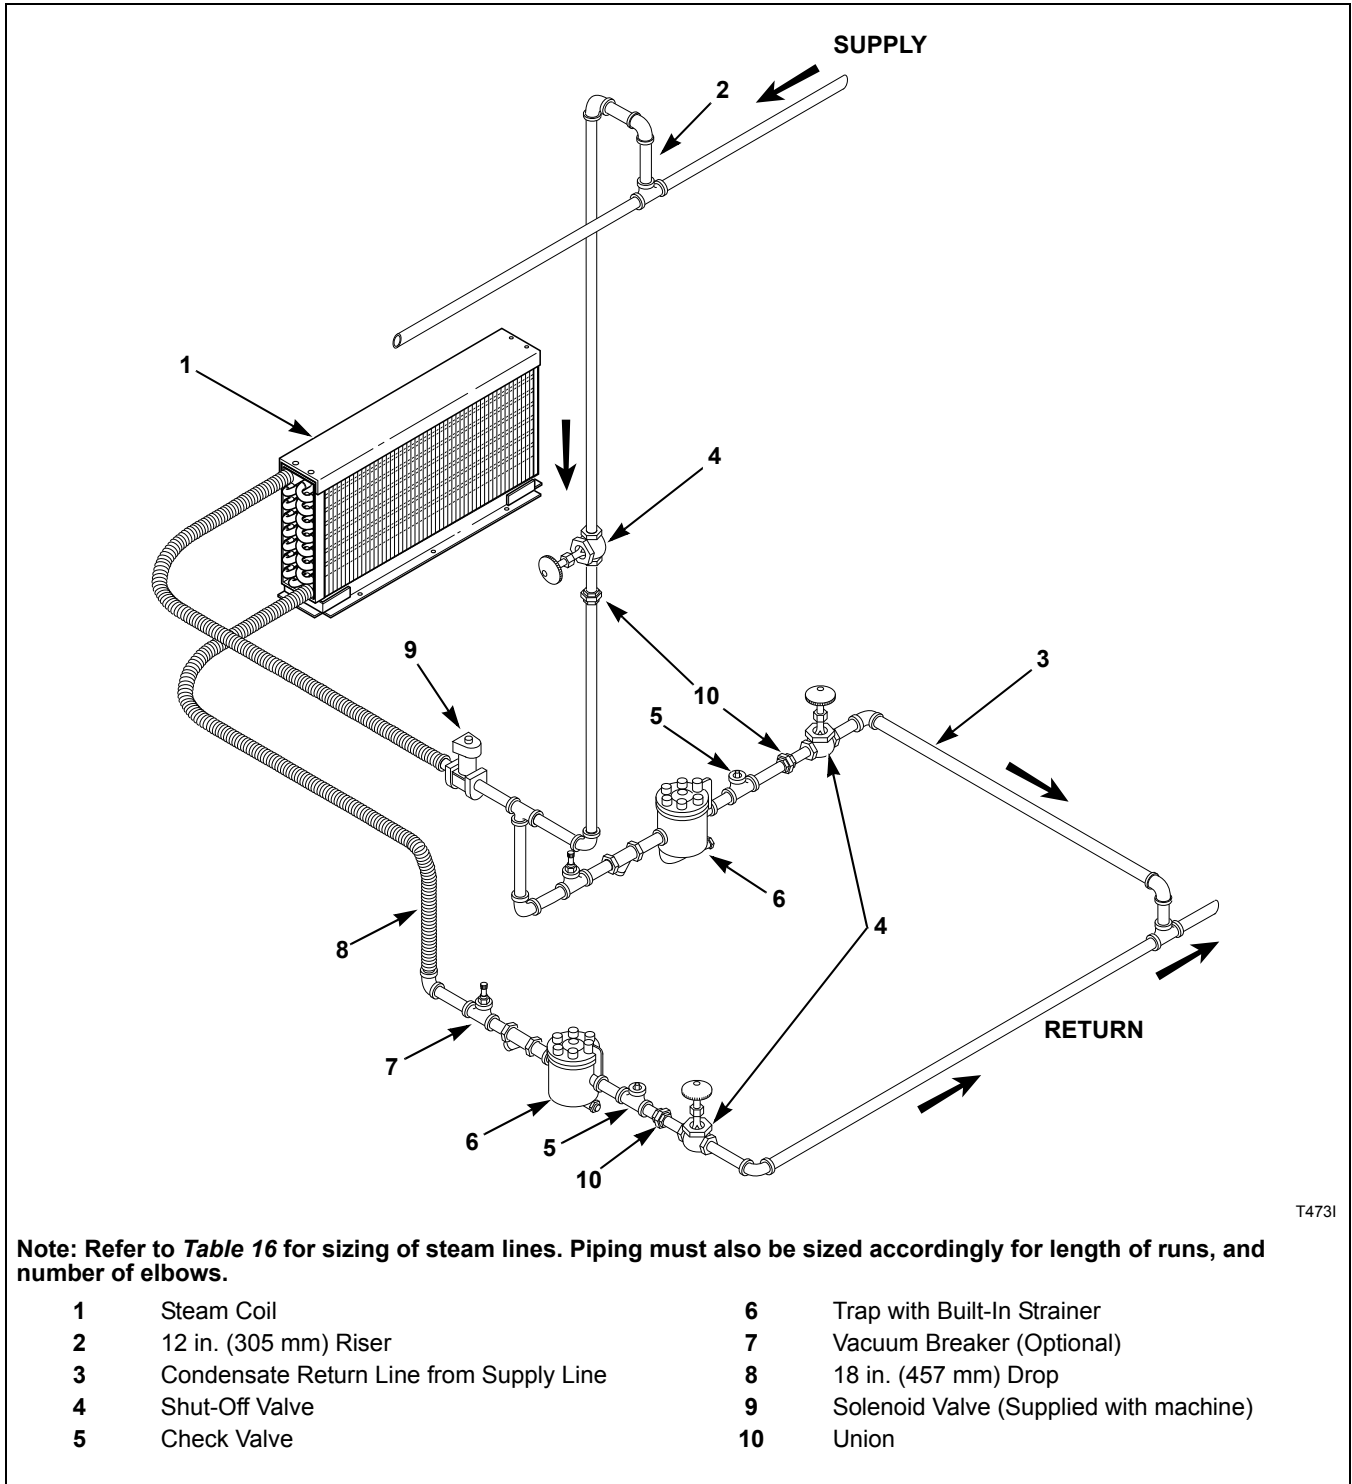

Figure 21
- Refer to *Figure 21* for proper steam pipe configurations.
The steam trap must be installed and the coil outlet connections must be connected to the condensate return lines. The following steps outline the procedure for installing the steam trap and connecting the condensate return lines. Refer to *Figure 21* for typical installations.